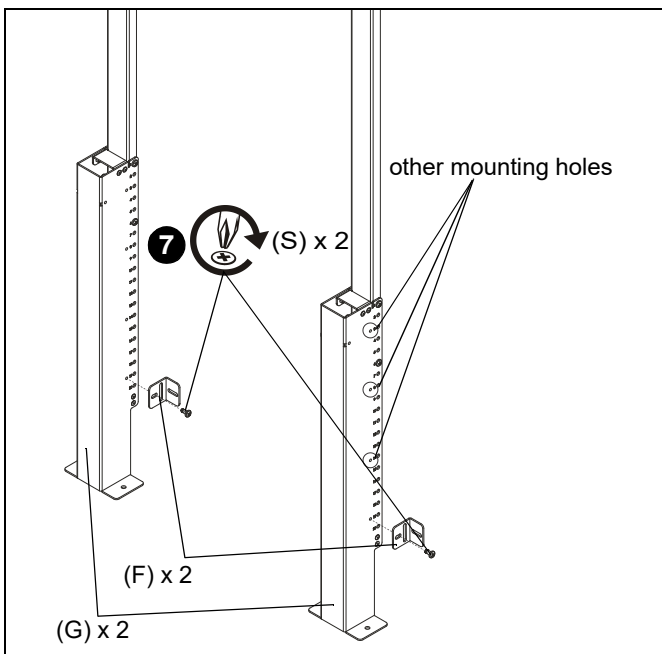

Figure 4
- Use two 1/4-20 x 1/2" button head cap screws (S) to secure two wall brackets (F) to bottom uprights (G). (See Figure 4)
NOTE: Any of the four holes on each upright (G) can be used on either side depending on where uprights were attached to each other and/or component storage panel location. (See Figure 4)